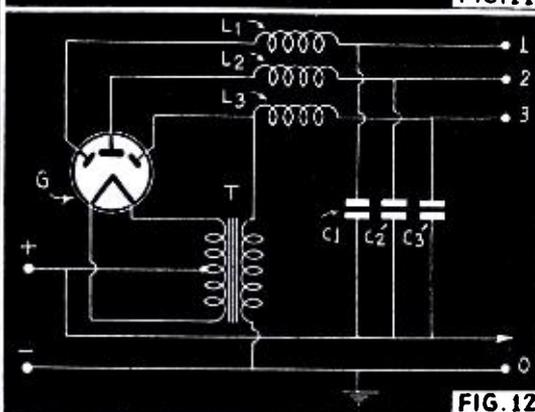

FIG. 12
*Fig. 12. Suppression of interference from a 3-phase rectifier G connected directly with the mains (1, 2, 3) by the self-inductances L1, L2, L3 and the condensers C1, C2, C3 according to the principle indicated in Figs. 2B and 4.*
If the radio interferences are for example due to a 3-phase rectifier, whose anodes can easily be reached and do not carry too-heavy currents, so that a self-inductance can be included in the anode supply line close to each anode, the suppression of interference can be achieved on the principle indicated in Figs. 2B and 4 in the direct neighborhood of the source of interference. In the case of the circuit given in Fig. 12 the anode supply lines are connected with the zero point of the cathode through the condensers C1, C2, C3, directly outside of the self-inductances L1, L2, L3, so that the interference is then indeed "nipped in the bud" and has no chance of penetrating the light line. The condensers in this case are expressly connected with the cathode and not with ground, because in this way the interference current has not the slightest chance of penetrating into the direct-current mains. If C1, C2, C3 were grounded, the interference current circuit would have to be completed over the divided capacity between the + and - connections. If it is desired to ground C1, C2, C3, then the + and the - connections must be short-circuited for high-frequency with a condenser close to the rectifier.